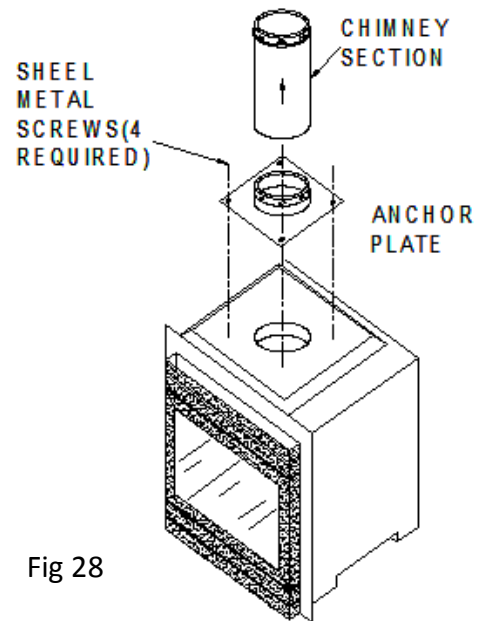

Fig 28
**2. Anchor Plate:** Attach an Anchor Plate to the fireplace top with (4) 5/8" sheet metal screws (Fig 28). Check with the appliance manufacture about the use of high temperature sealants.